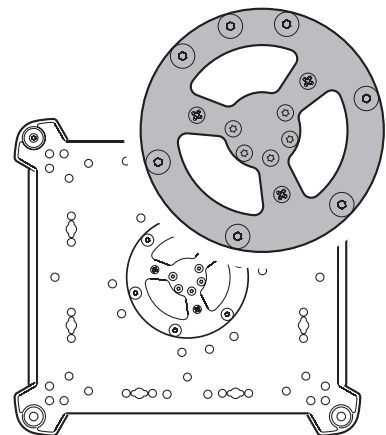

Figure 8: Safety cable attachment point
6. See Figure 8. Install a safety wire that is approved as a safety attachment for the weight of the fixture by looping it through the safety attachment wheel on the bottom of the base.